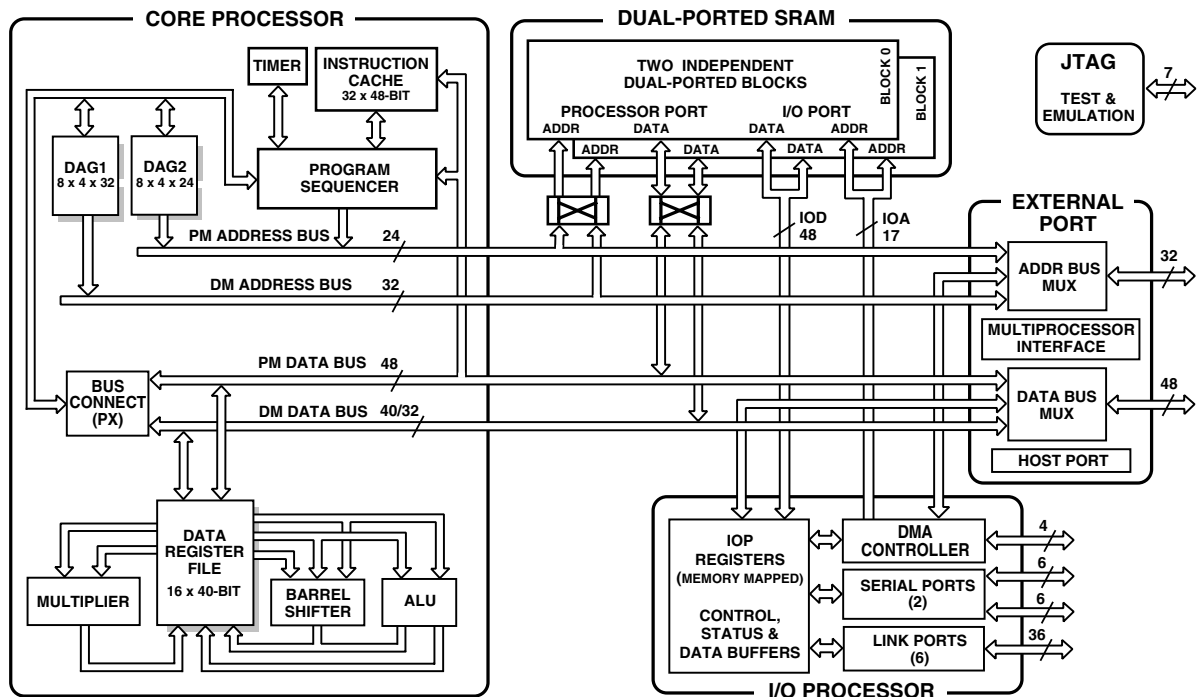

Figure 1. ADSP-21062/ADSP-21062L Block Diagram
Figure 1 shows a block diagram of the ADSP-21062, illustrating the following architectural features:
The ADSP-21062 features an enhanced Harvard architecture in which the data memory (DM) bus transfers data and the program memory (PM) bus transfers both instructions and data (see Figure 1). With its separate program and data memory buses and on-chip instruction cache, the processor can simultaneously fetch two operands and an instruction (from the cache), all in a single cycle.